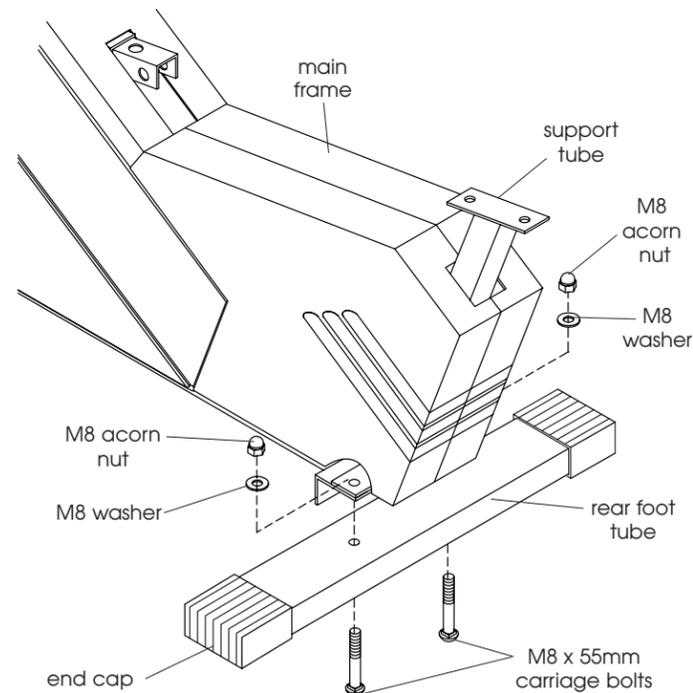

Figure 2 - Install Rear Foot Tube
- Remove (2) Carriage Bolts, (2) Washers and (2) Acorn Nuts from Support Tube.
- Position Rear Foot Tube (with End Caps) behind Main Frame and align bolt holes, see Figure 2.
- Attach Rear Foot Tube with (2) Carriage Bolts, (2) Washers and (2) Acorn Nuts that were removed in Step 2a. **Hand tighten.**